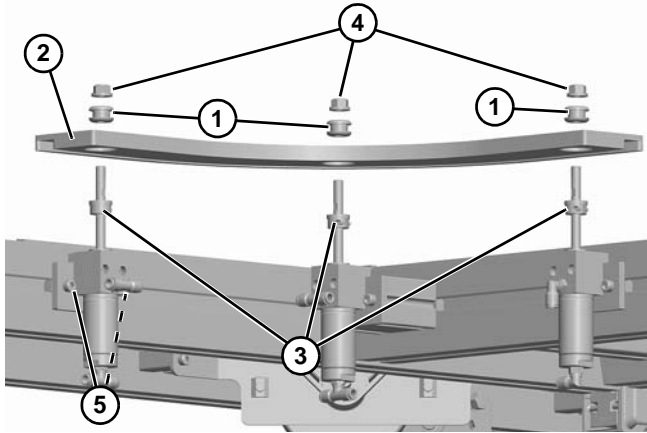

Figure 86
4. Insert grommets (**Figure 86, item 1**) into holes of corner guide. Install corner guide (**Figure 86, item 2**). Position cylinder assemblies so that the washers and clamp collars (**Figure 86, item 3**) are in the circular openings in the bottom of the guide.
5. Thread flange lock nuts (**Figure 86, item 4**) onto cylinder shafts, but do not tighten.
6. Finger tighten screws (**Figure 86, item 5**) on cylinder assemblies.